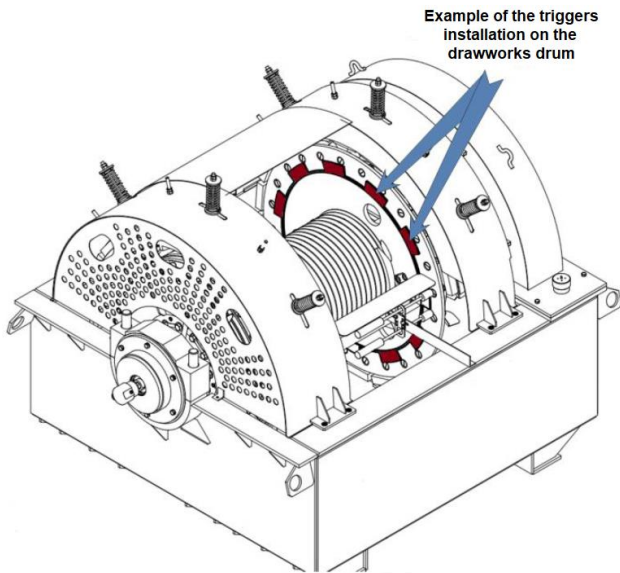

Figure 3. Example of the triggers installation on the drawworks
- Location along the drawworks drum circumference through an equal distance, but not less than the length of the trigger (see Fig.3);